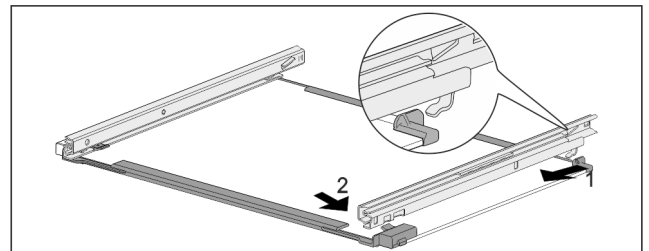

Fig. 159 Glass shelf with rails
- ▶ Hook in rail at the back. Fig. 159 (1)
- ▶ Hook in rail at the front. Fig. 159 (2)